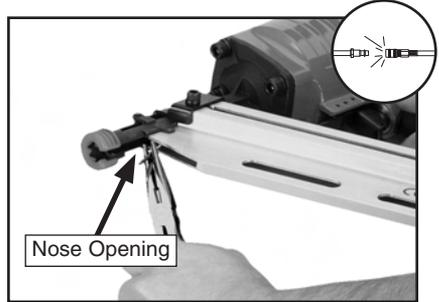

Figure 10. Clearing a jammed nail.
3. Locate the opening in the underside of the nailer safety nose (see **Figure 10**).